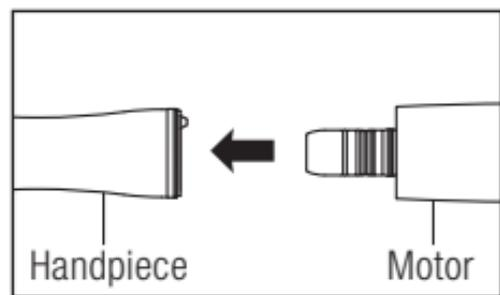

Fig. 12
- 5** Remove the handpiece from the motor. (Fig. 12)